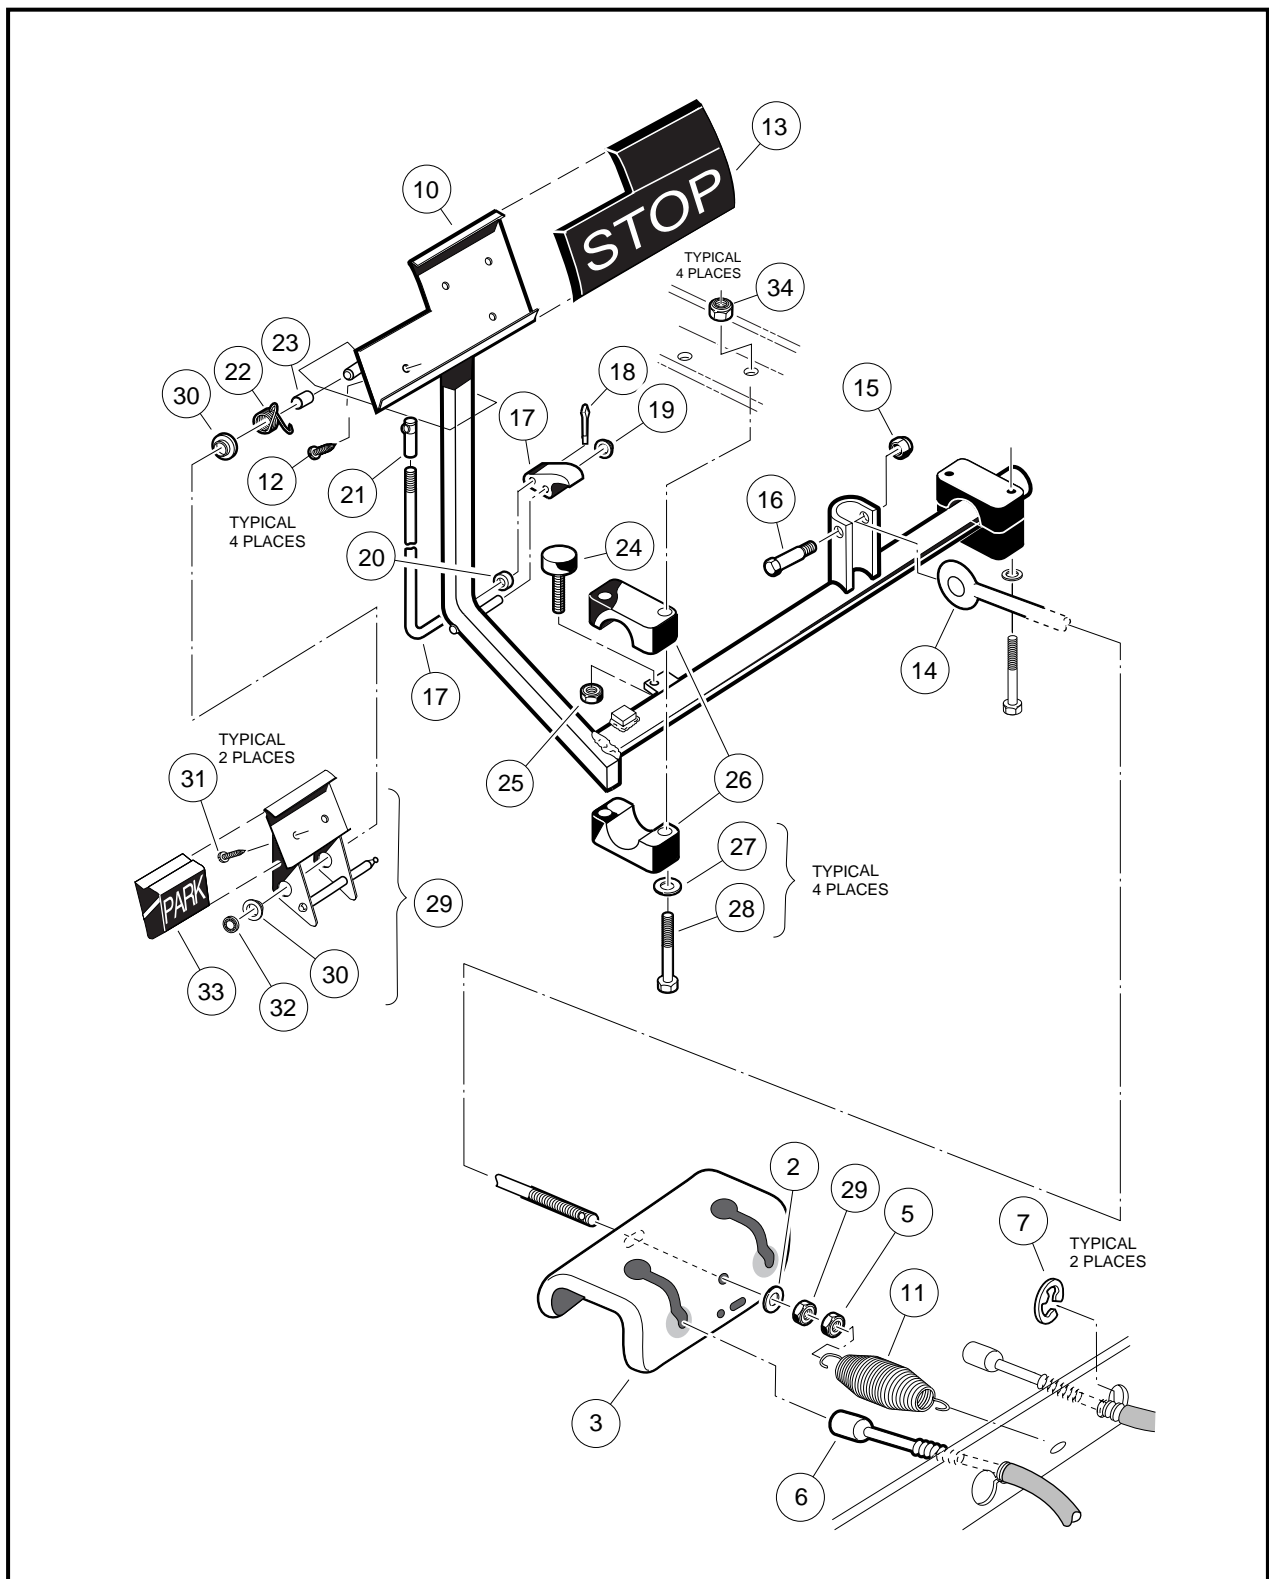

Figure 5-23 Brake and Park Brake Pedal Assembly and Mounting – Two-Wheel Brake Vehicles
- 3.1. Remove shoulder bolts (16) and nuts (15) then disconnect the rod(s) (14 and 36) from the pedal shaft (**Figure 5-23, Page 5-15 or Figure 5-24, Page 5-16**). .
- 3.2. Remove nuts (34), flat washers (27 or 35), bolts (28), and mounting blocks (26) (**Figure 5-23, Page 5-15 or Figure 5-24, Page 5-16**). If the mounting blocks (26) show signs of excessive wear, or are damaged, they must be replaced with new ones before installing pedal assembly (**Figure 5-23, Page 5-15 or Figure 5-24, Page 5-16**).
- 3.3. Remove the nut (25) and brake stop (24) (**Figure 5-23, Page 5-15 or Figure 5-24, Page 5-16**).
- 3.4. Lift the pedal assembly (10) through the floorboard (**Figure 5-23, Page 5-15 or Figure 5-24, Page 5-16**).
1. From the top side of the floorboard, insert the brake pedal weldment assembly (10) (**Figure 5-23, Page 5-15 or Figure 5-24, Page 5-16**) through the opening in the floor as shown (**Figure 5-25, Page 5-17**) and install the pedal stop (24) (**Figure 5-23, Page 5-15 or Figure 5-24, Page 5-16**) on the weldment.
2. Attach the equalizer rod(s) (14 and 36) to the brake pedal weldment assembly (10) as shown (**Figure 5-23, Page 5-15 or Figure 5-24, Page 5-16**). Tighten to 17 in-lb (23 N·m).
3. Position and attach brake pedal assembly and mounting blocks (26) to vehicle frame as shown. Tighten the bolts and nuts to 50 in-lb (6.5 N·m) (**Figure 5-23, Page 5-15 or Figure 5-24, Page 5-16**).
5. Tighten nut (25) on brake stop (24) to 8 ft-lb (9.5 N·m) (**Figure 5-23, Page 5-15 or Figure 5-24, Page 5-16**).
- 3.1. To remove the park brake rod and pawl assembly (17 through 20), remove the push-on nut (19) and disconnect the ball joint sleeve (21) from the park brake pedal (29) (**Figure 5-23, Page 5-15 and Figure 5-24, Page 5-16**). **See following NOTE.**